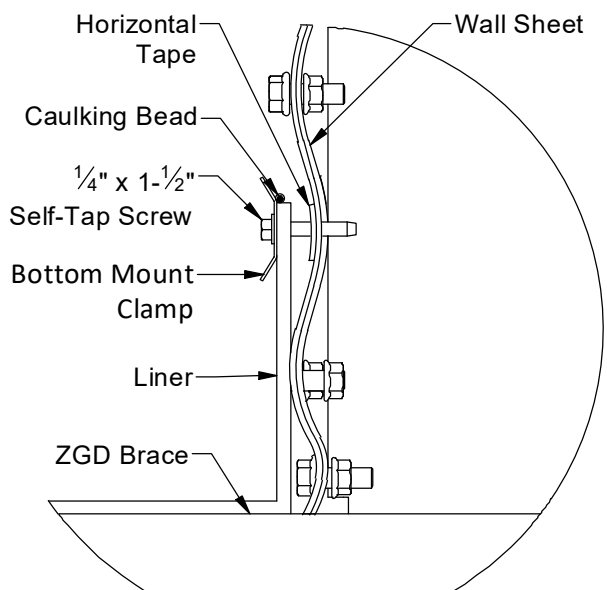

Fig 24 - Bottom mount liner detail
5. Use the bottom mount liner clamp to sandwich the liner between the clamp and the wall sheet/caulking tape. Assemble using 1/4 x 1-1/2” self-tapping screws at every 6” intervals around the perimeter of the system, or as needed. See Figure 24.